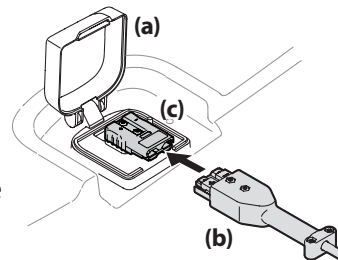
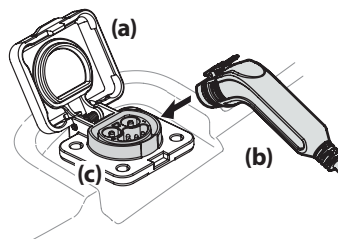

Figure 11
Figure 12
1. Lift the charge port cover (a). See Figure 11 for Style 1 (725-07253A) and Figure 12 for Style 2 (T56XXX Series Chargers).
2. Insert the charging cord (b) into the charging port (c). See Figure 11 for Style 1 and Figure 12 for Style 2.